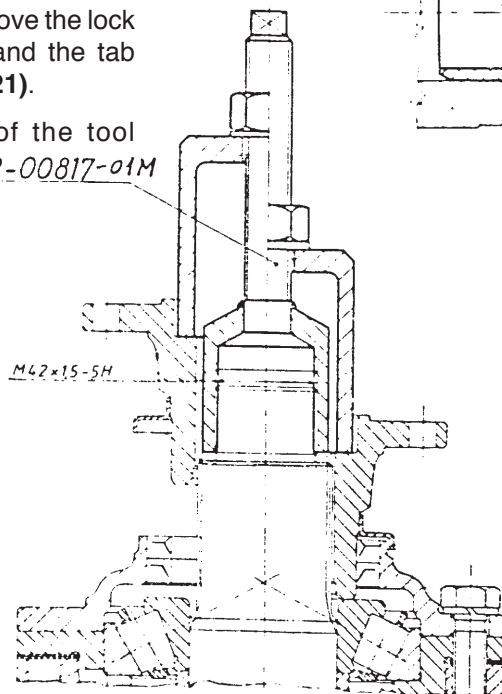

Fig. 6.: PRESSING ON THE COMPANION FLANGE
By means of the tool shown press the companion flange (3) to the drive pinion splines to bottom out (Fig. 6.).